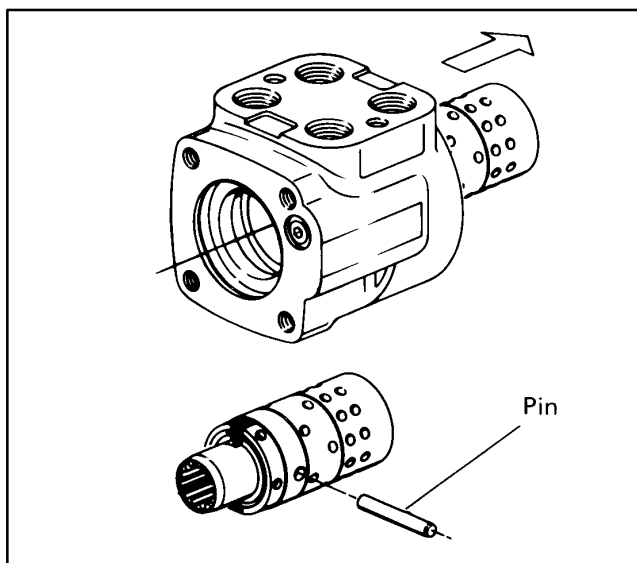

Figure 33
16. Remove spool and sleeve assembly from 14-hole end of housing, see Fig. 33.